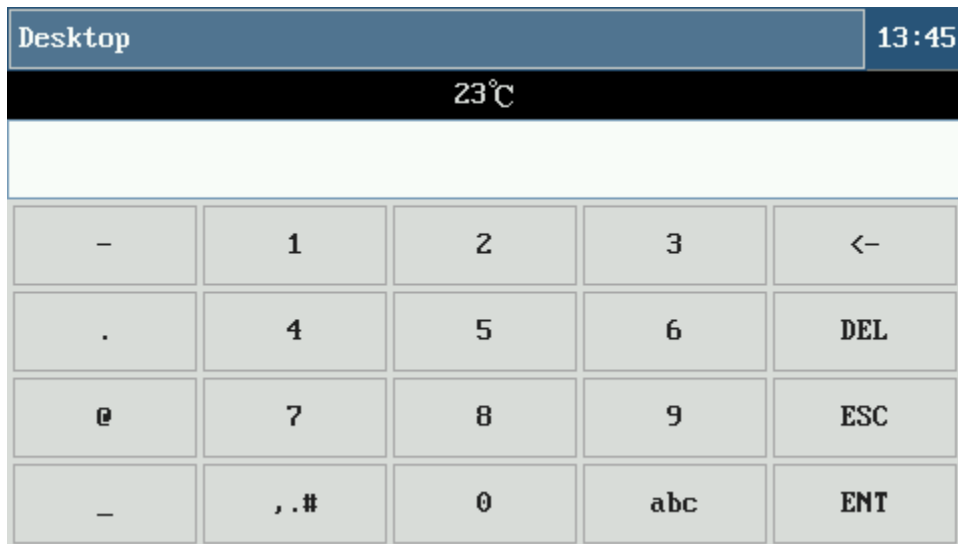

Figure 1-2
- (10) **AC temp setting:** Temperature setting in the air conditioning mode (cooling or heating), touch the "SET TARGET TEMP" icon and the keyboard window will pop up, as shown in Figure 1-2, then, enter the required temperature. Use the ENT" key will confirm the input. Use the "DEL" key to delete the input, and the "ESC" to cancel the input and exit.
- (11) **DHW temperature setting:** Sets the temperature in the (DHW) mode.
- (12) **AU heat: Not used, please disable.**
- (13) **AU DHW: Not used, please disable.**
- (14) **Current DHW temperature:** This is used to check the current DHW mode temperature.
- (15) **Fault light:** Illuminated if there is a fault.